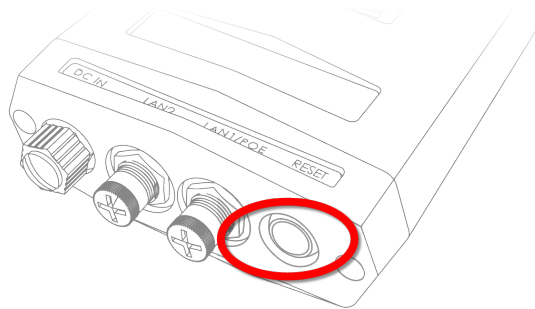

Figure 8. Cisco FM4200 Mobi (Hardware RESET button)
- Press the **RESET** button on the bottom cover of the unit (Figure 8 \(page 32\)) for one second, then release the button immediately.